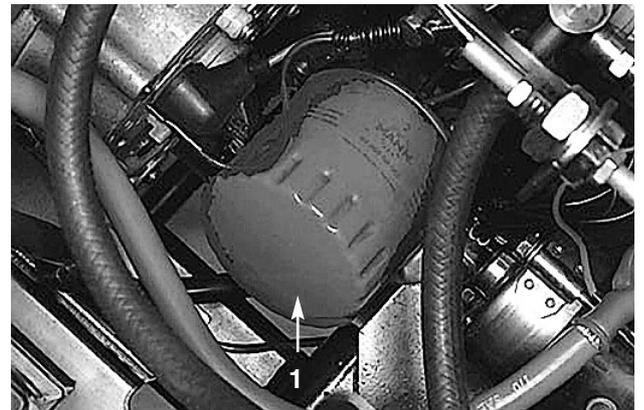

Figure 42
2. Remove the oil filter (Fig. 42). Apply a light coat of clean oil to the new filter seal before screwing it on. **DO NOT OVER-TIGHTEN.**